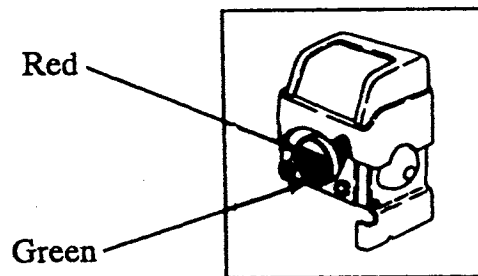

Figure 5
3. Stop pushing the primer pump immediately as soon as the fuel mixture appears in the red (upper) section. The lower section is green. See Figure 5.